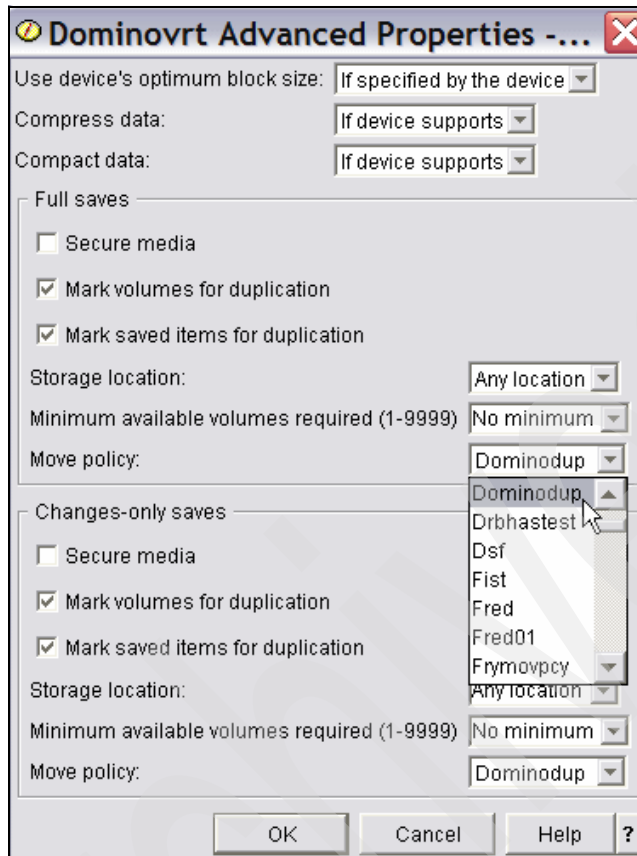

Figure 5-62 BRMS move policy change, During - What - Advanced Properties
8. In the Advanced Properties window shown in Figure 5-62 on page 248, select **Mark saved items for duplication**, for both Full and Changes only. Select **Dominodup** against Move Policy for both Full and Changes only. If you want to prohibit other users from reading these volumes, select the corresponding field. Click **OK** when done.